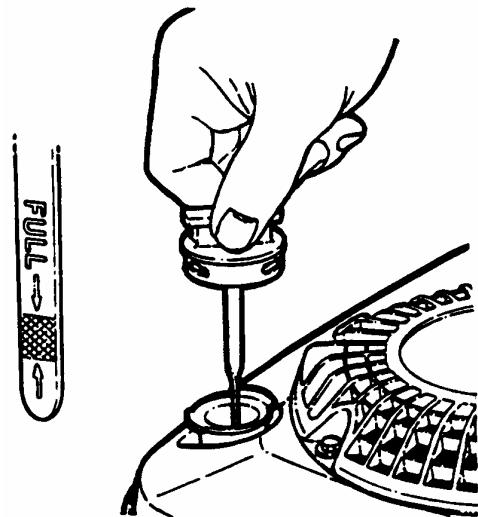

FIGURE 2.2
**2.1.4.** Check engine oil and add oil as needed to bring level up to the full mark. Refer to Engine Owner's Manual for oil specifications. See Figure 2.2.